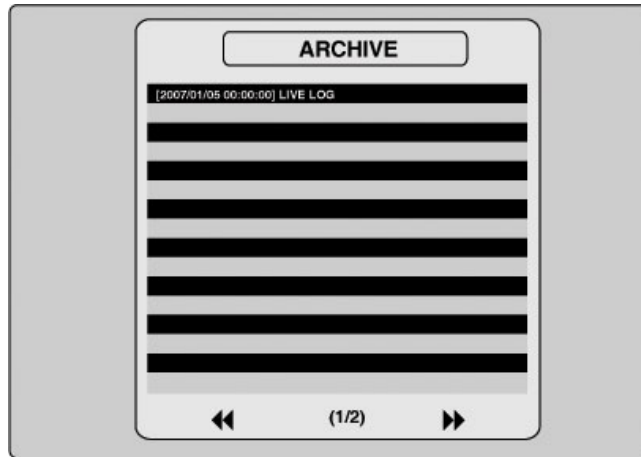

Figure 4.2.9. ARCHIVE SEARCH LIST screen
2. Once you have selected the date, press the SEL button to move to the list of recording data. (figure 4.2.9)